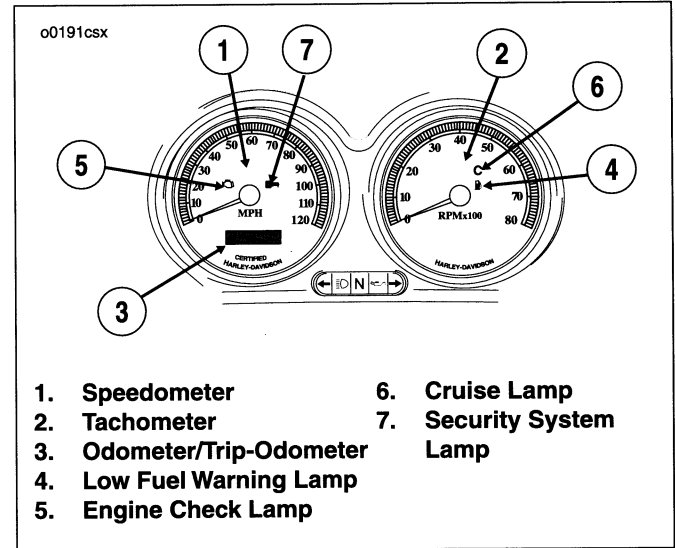
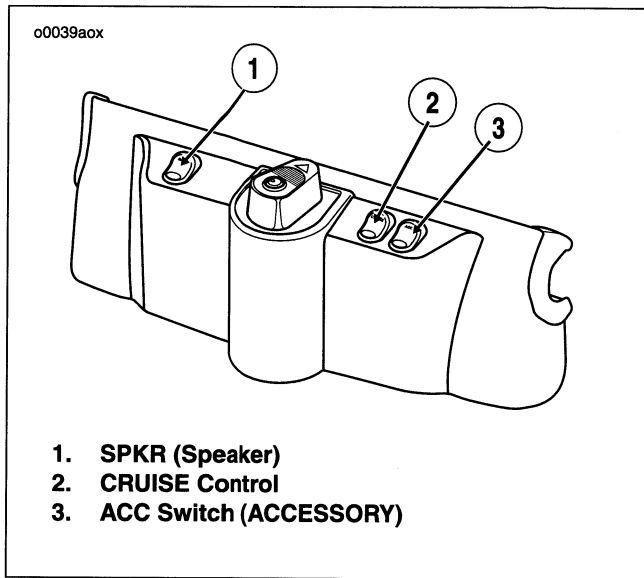

Figure 10. Indicator Lamps
Figure 11. Switch Indicators
See Figure 10. The engine check lamp is located near the upper center on the left side of the speedometer. Its purpose is to indicate whether or not the engine management system is operating normally. The engine lamp color is **red**.
See Figure 10. There is a low fuel lamp on the tachometer, below the cruise lamp and lights up to indicate that you have approximately 1 /2 gallon of gasoline left in the tank. The low fuel lamp color is **amber**.
See Figure 10. and Figure 11. The Screamin' Eagle® Road Glide® (FLTRSEI2) motorcycle has two additional indicator lights: a **red** light on the cruise control switch, indicating cruise control ON or OFF, and a **green** light on the tachometer, indicating cruise control set or not set. See CRUISE CONTROL section for more details.
See Figure 10. The *Tachometer* registers the engine speed in revolutions per minute (RPM).
See Figure 10. The *Speedometer* registers miles per hour of forward speed. The *Odometer* registers the number of miles the vehicle has traveled.
See Figure 10. The *Electronic Speedometer* has a single display window for both the odometer and trip-odometer.
See Figure 10. Use the Trip-odometer to register number of miles traveled on a trip or between refueling.
See Figure 11. The Screamin' Eagle® Road Glide® (FLTRSEI2) motorcycle has a *Accessory Switch* for the owner's use. There is an accessory connector, located under the seat, that can be activated with the ACC switch (Item no. 3). See your Harley-Davidson Dealer for possible uses.
See Figure 11. A fairing cap Cruise Control Switch located to the right of the Ignition Switch turns the Cruise Control System ON and OFF.
1. See Figure 11. Turn the fairing mounted Cruise Control Switch to the ON position. The **red** lamp on the Cruise Control Switch will light when activated.